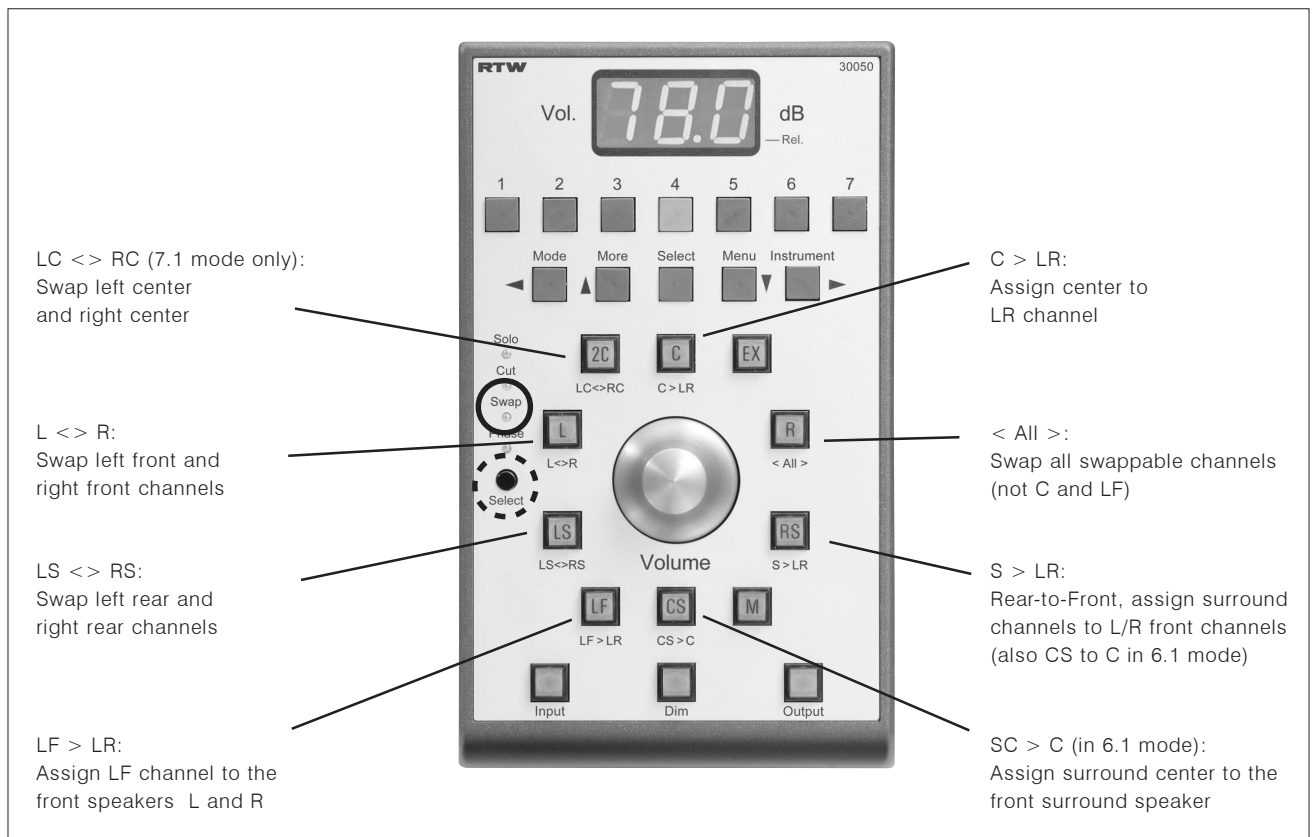

Fig. 3-30: Remote Control 30050 function key assignments in Swap mode (blue labels beneath the keys)
- Swap: Swaps channels as indicated by the blue labels on the panel beneath the keys (see Fig. 3-30)